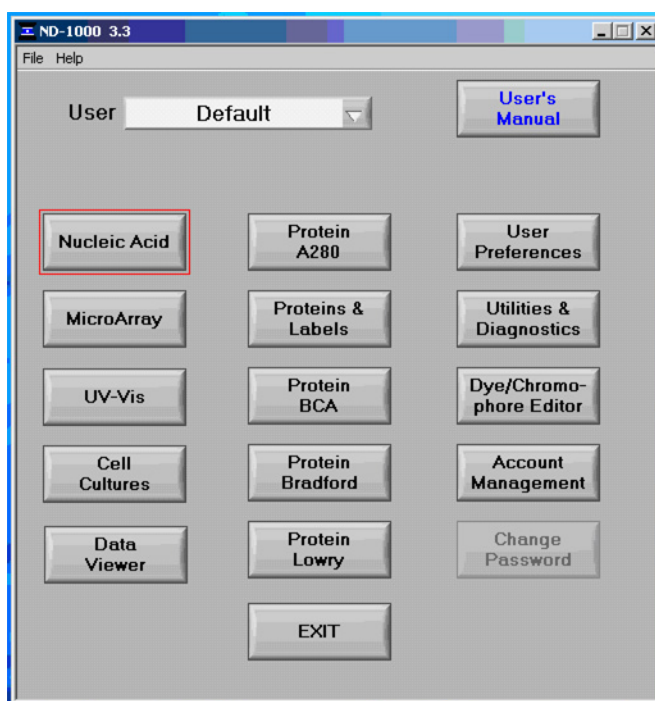

Figure 41 NanoDrop® ND-1000 Spectrophotometer software dialog box.
2. Open the NanoDrop ND-1000 Spectrophotometer software. A dialog box displays (see Figure 41).